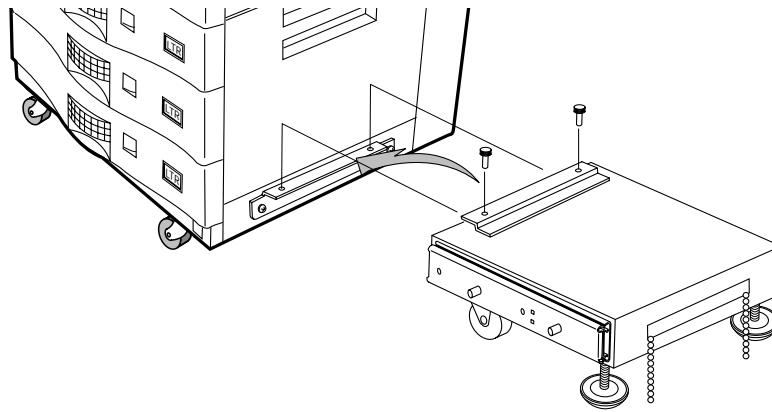

Figure 4-7 Attach Support Stand
3. Lift the support stand and place on top of the mounting bracket guide. Attach the support stand to the support stand guide, as shown in Figure 4-7.